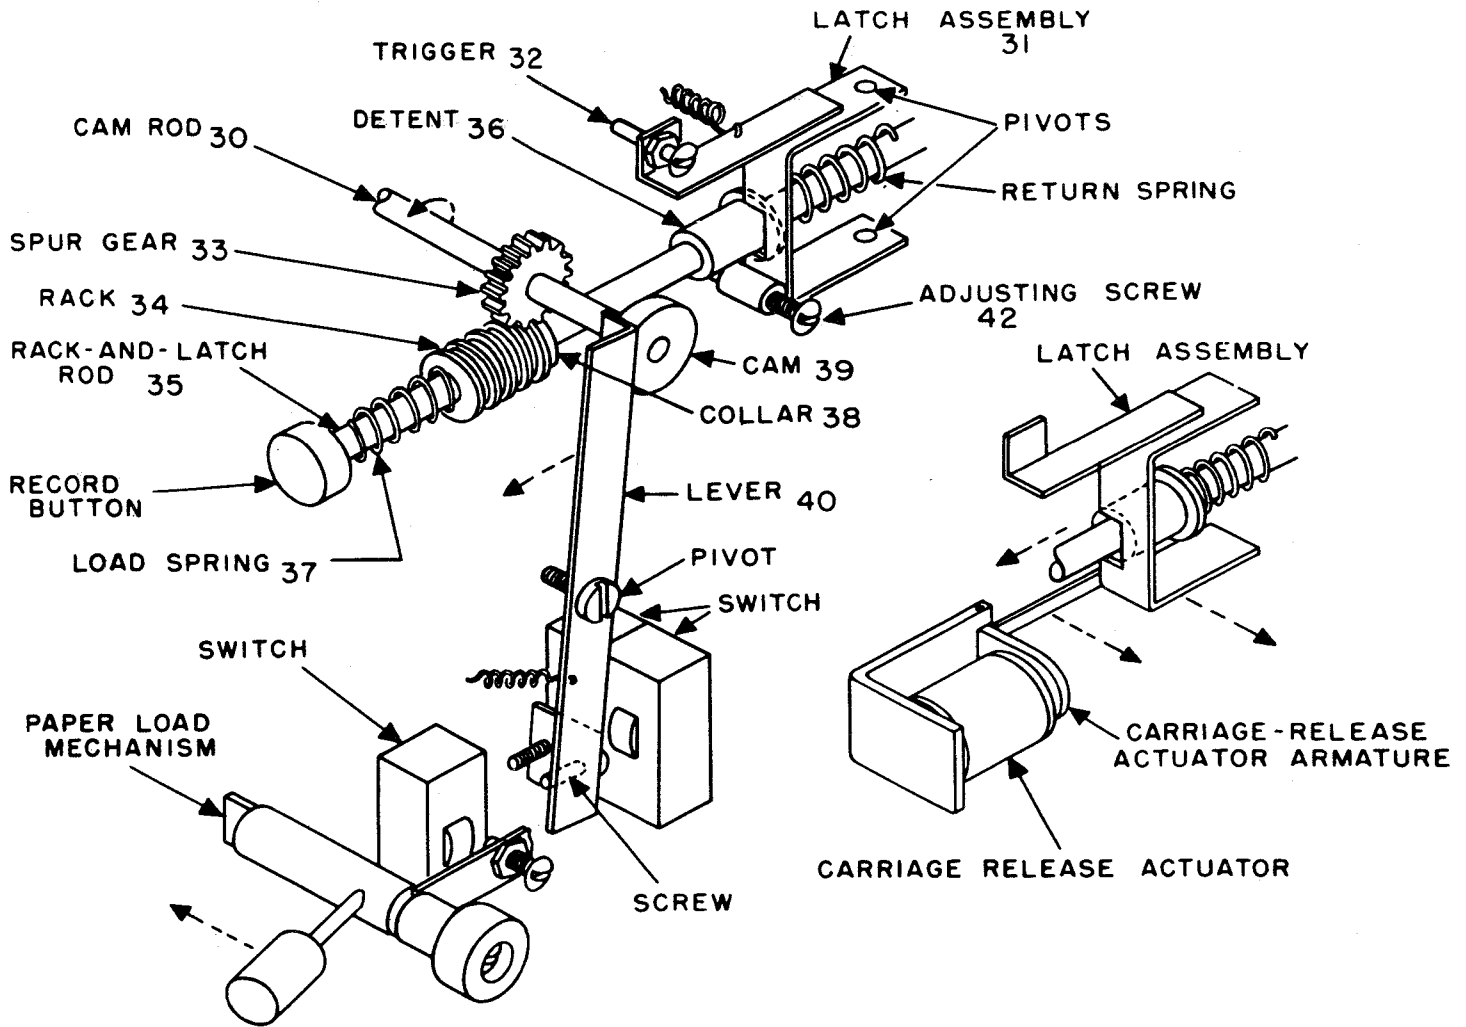

Figure 2-20. Stylus Carriage Control Mechanism
Pressing the RECORD button turns the cam rod to engage the half nut against the leadscrew. When the carriage reaches the end of its travel, it is automatically disengaged from the leadscrew through the action of the trigger-operated latch (31 of figure 2-20). The latch (31) may also be operated by the electro-magnet of the carriage release actuator, which is energized when the PAPER LOAD control is operated to stop the drum or when the selector switch is turned from the RUN position.
Figure 2-20 shows the mechanism for actuating the cam rod to engage or disengage the stylus carriage. The spur gear (33) on the end of the cam rod meshes with the rack (34). The rack is supported on the rack-and-latch rod (35) which extends through the front panel as the RECORD button. When the RECORD button is pushed in as far as it will go, the latch assembly engages detent (36) in rod (35) and compresses the load spring (37). Spur gear (33) turns and rotates the cam rod to engage the half nut on the stylus carriage with the leadscrew and drop the carriage into place for recording.